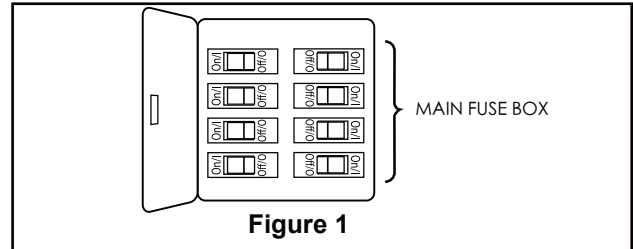

Figure 1
1. Remove the two set screws and locking nuts in the downrod support of the motor assembly and retain for reinstallation in Step 4 of Page 8. Disassemble the upper housing cover by removing the six screws at the top of the motor assembly and retain for Step 3. Carefully twist and lift off the cover. (Figure 1)
- 1. Remove the hanger ball portion from the downrod/hanger ball assembly by loosening the set screw in the hanger ball until the ball falls freely down the downrod. Remove the pin from the downrod, then remove the hanger ball. Retain the pin and hanger ball for reinstallation in Step 6. (Figure 1)
To avoid possible electrical shock, be sure electricity is turned off at the main fuse box before hanging. (Figure 1)
1. To set the code on receiver unit, slide dip switches to the same positions as set on the remote. (Figure 1)